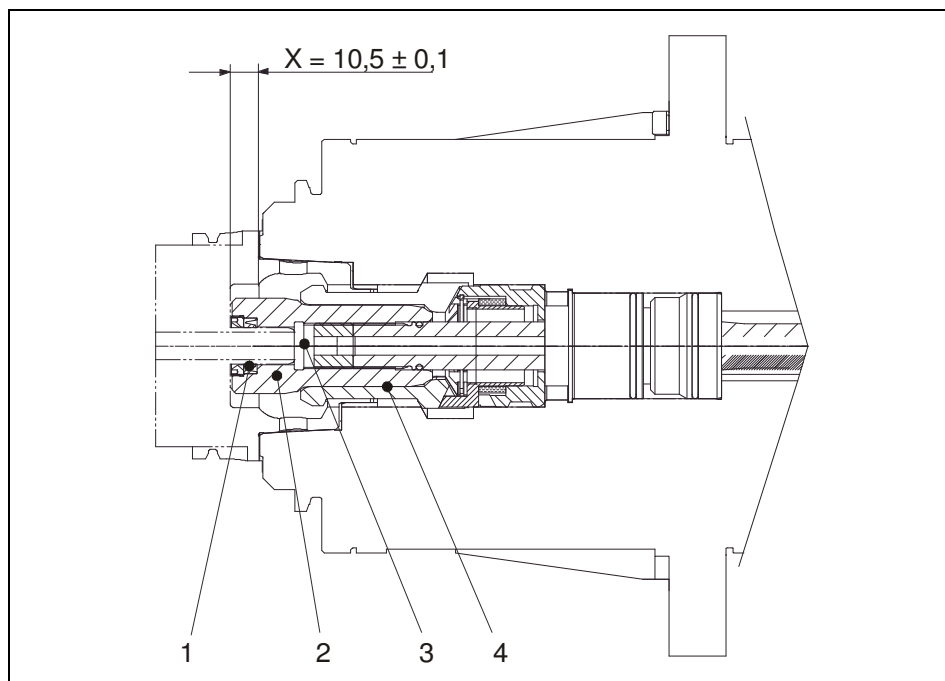

Fig. 12 HSK clamp set with setting dimension X
The setting dimension must be 10.5 ± 0.1 mm in the released state (see Fig. 12).
- Check the tight fit of the locking screw in case of deviations (see item 3 Fig. 12).